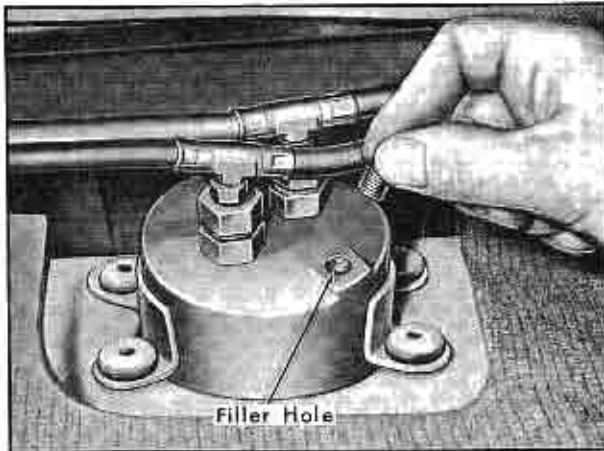

Fig. 3-95 Checking Hydraulic Pump Reservoir Fluid Level
2. Remove the filler plug from the pump reservoir, Fig. 3-95, and check the fluid level, using a suitable dipstick.